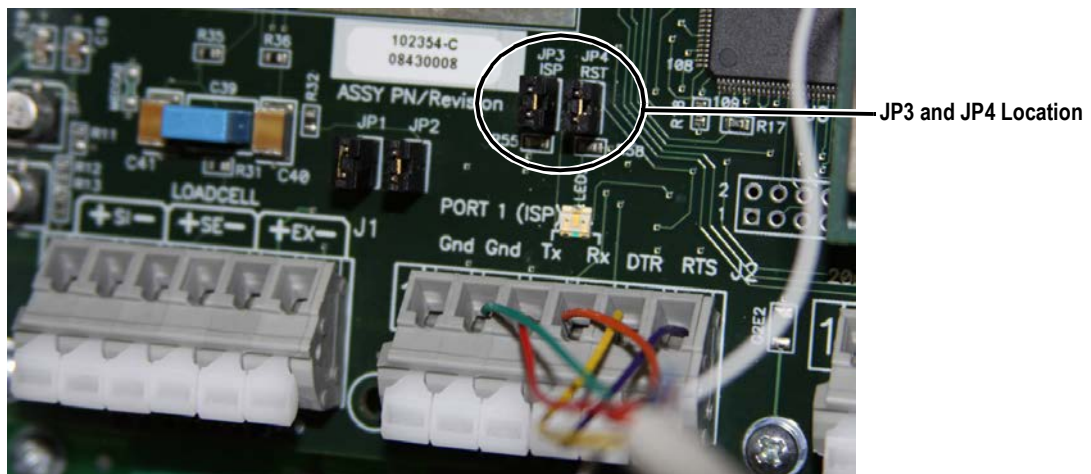

Figure 9-4. Jumpers Installed on JP3 and JP4
10. When complete, remove the jumpers shown in Figure 9-4 on page 79 and power up the indicator.